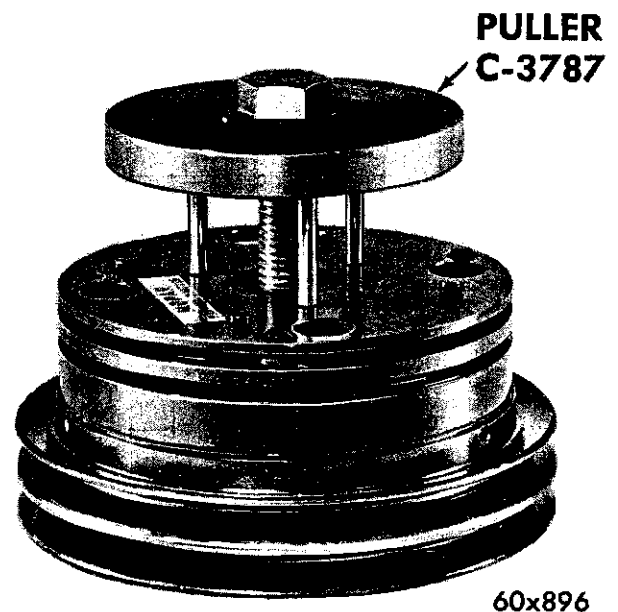
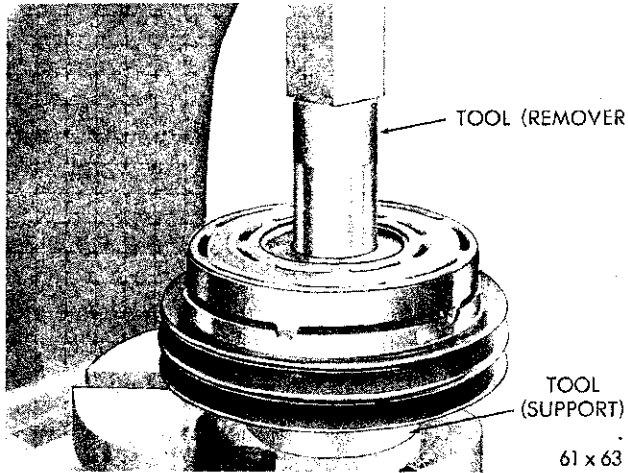

Fig. 32—Removing the Hub and Shoe Assembly
Fig. 33—Removing the Bearing from the Pulley Assembly
- (1) Remove the small snap ring from the drive hub with Tool C-3128 or equivalent.
- (2) Install the drive hub puller Tool C-3787 aligning the three pins of the Tool in the three holes in the hub and shoe assembly. Tighten the hex head bolt down until the drive hub is removed from the bearing (See Fig. 32).
- (3) Remove the bearing snap ring from the pulley assembly.
- (4) Place the pulley assembly on an arbor press, with the pulley side down, and the bearing hub centered on Tool C-3835. Install the Tool SP-3496 on the inner race of the bearing, and press the bearing from the pulley assembly. (See Fig. 33).